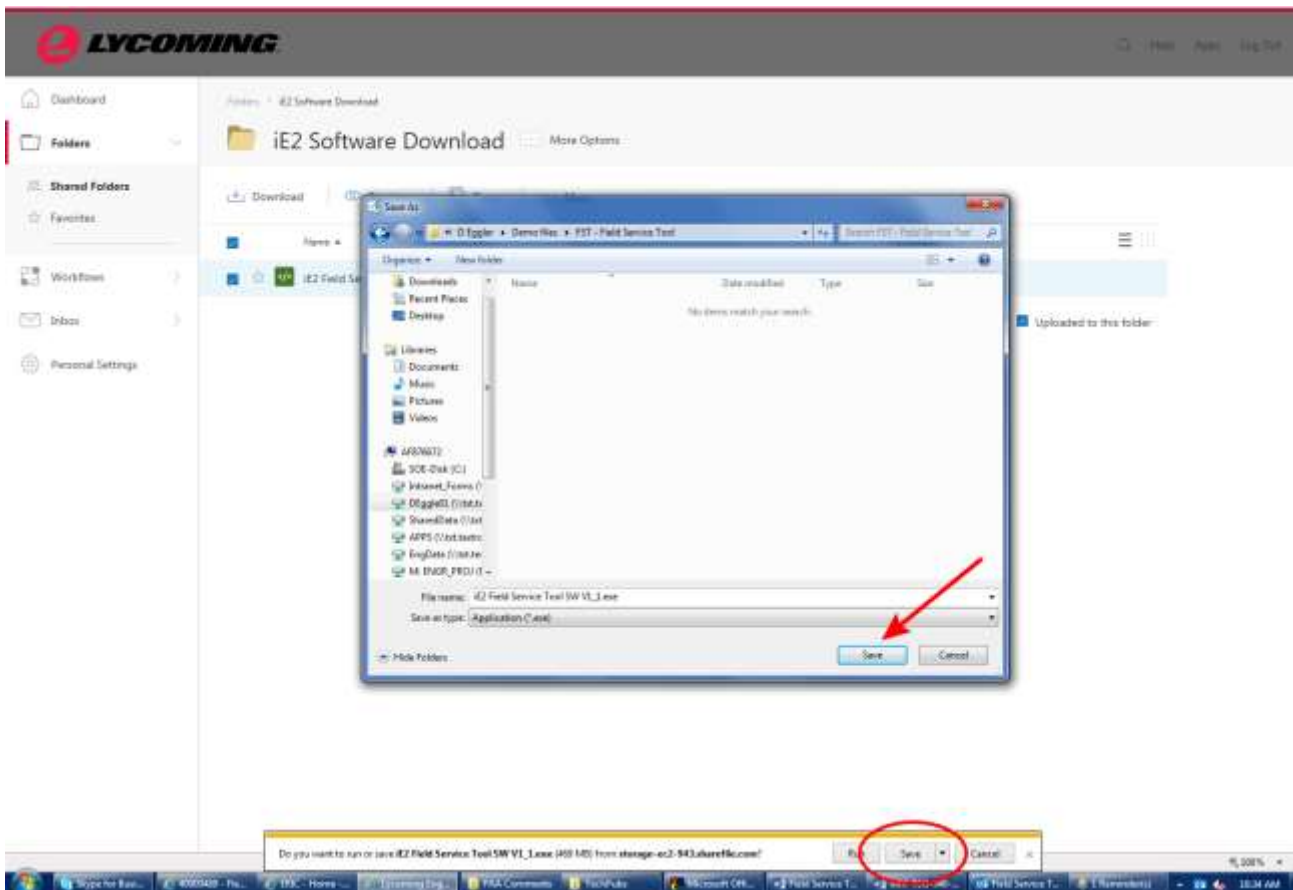

Figure C-12
10. Click **Save As** from the pop-up window at the bottom of the page (Figure C-12) and choose a file folder location for the download from the Save As dialog window, then click **Save**.